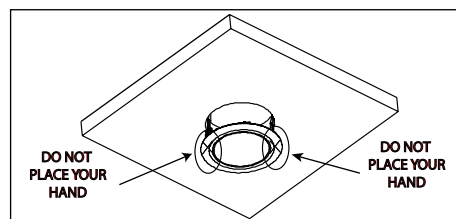

Figure 8 / Figura 8 / Schéma 8
■ **DO NOT PLACE YOUR HAND UNDERNEATH SPRING CLIP DURING REMOVAL PROCESS. SNAPPING OF THE CLIPS CAN CAUSE INJURIES TO THE HAND.** (Figure 8)